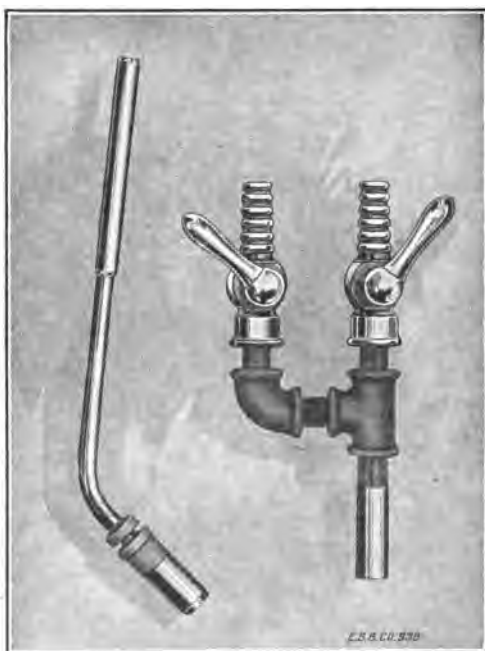

Fig. 398. Lead-Burning Outfit for Use with Illuminating Gas
*Illuminating Gas Outfit.* Heretofore it has not been possible to do good work in lead burning with illuminating gas, but a special type of burner has recently been perfected by the Electric Storage Battery Company, which permits the use of illuminating gas with satisfactory results. The outfit consists of a special burning tip and mixing valve. Sufficient  $\frac{5}{8}$ -inch rubber hose should be provided, and the rubber should be wired firmly to the corrugated connections, Fig. 398, as the air is used at a comparatively high pressure. A supply of compressed air is necessary, the proper pressure ranging from 5 to 10 pounds, depending upon the length of hose and the size of the parts to be burned. When air from a compressor used for pumping tires is utilized for this purpose, a suitable reducing valve must be introduced